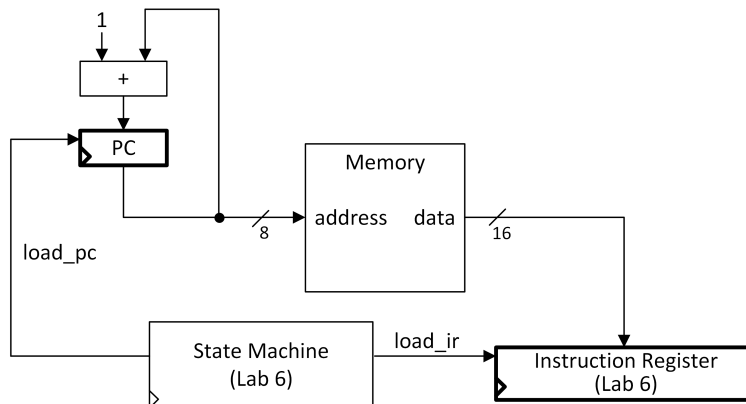

Figure 1: Adding an instruction memory and program counter (simplified).
Figure 1 illustrates a *simplified* view of how one might interface memory containing instructions to the components from Lab 6. Each memory location holds 16-bits versus 8-bits for ARMv7. Each Simple RISC Machine instruction is also 16-bits long and thus occupies one memory location. A program counter (PC) is connected to the address input of the memory. The PC contains the address of the next instruction to execute and is implemented with a register with load enable. The memory contains 256 memory locations thus the program counter is $\log_2(256) = 8$ -bits wide. Note that, unlike in ARMv7, the PC in the Simple RISC Machine architecture is not a register inside the register file. The PC is updated when the load enable
input, `load_pc`, is set to 1 by the state machine. In Figure 1 the PC is updated by adding 1 to compute the address of the next instruction. The bonus adds branches enabling the PC to change by other values.